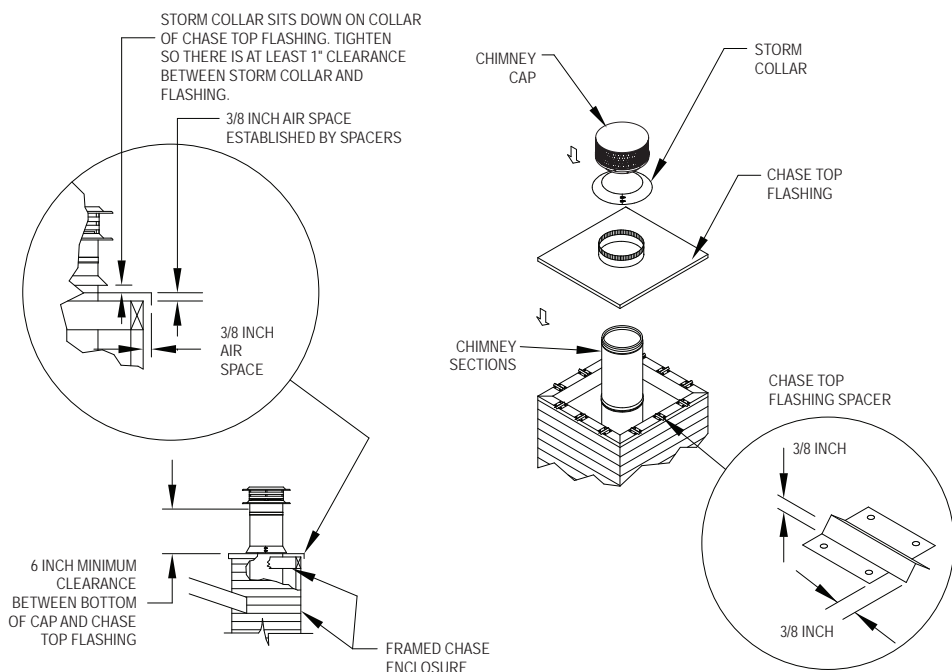

Figure 23
8. Install Chase Top Flashing: It is recommended that a Tee Supported Chimney be enclosed in a chase. If a chase enclosure has been constructed, you can either use a standard flat-roof flashing, or you can use a Chase Top Flashing. Using a Chase Top Flashing allows for a lower profile for the chimney. The Chase Top Flashing has an opening in the center that has a 3" larger diameter than the outer diameter of the DuraTech Chimney. If the Chase Top Flashing can fit over your chase enclosure as required (**Fig 23**) then install as directed, or trim as needed. However, if the Chase Top Flashing is smaller than your chase enclosure, the you will need to provide a galvanized sheet capable of covering your chase and overhanging the each side by 1/4-1/2 inch. Attach the Chase Top
Flashing to the galvanized sheet using sheet metal screws and non-hardening waterproof sealant. Use the Chase Top Flashing Spacers to allow the proper air-gap clearances on the galvanized sheet. The Chase Top Flashing Spacers are available to insure that the proper air-gap is maintained. **Figure 23** displays in some detail, how these air gaps are established using the Spacers and Chase Top Flashing. Secure the Chase Top Flashing to the chase using a sufficient number of #8, 1-1/2" wood screws, being careful to insure the air gap is maintained between the flashing and the chase. Seal the screw heads with non-hardening sealant. Install the Storm Collar directly down on top of the collar of the Chase Top Flashing.